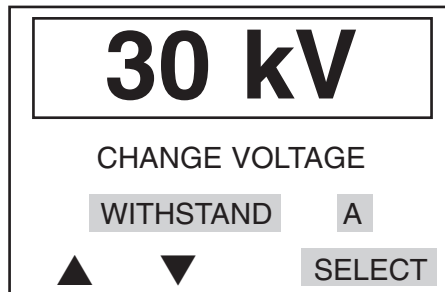

Figure 14 Example of display for setting the proof test voltage level
2. Press the left hand key labelled 'A'. The display screen appears as in figure 14.